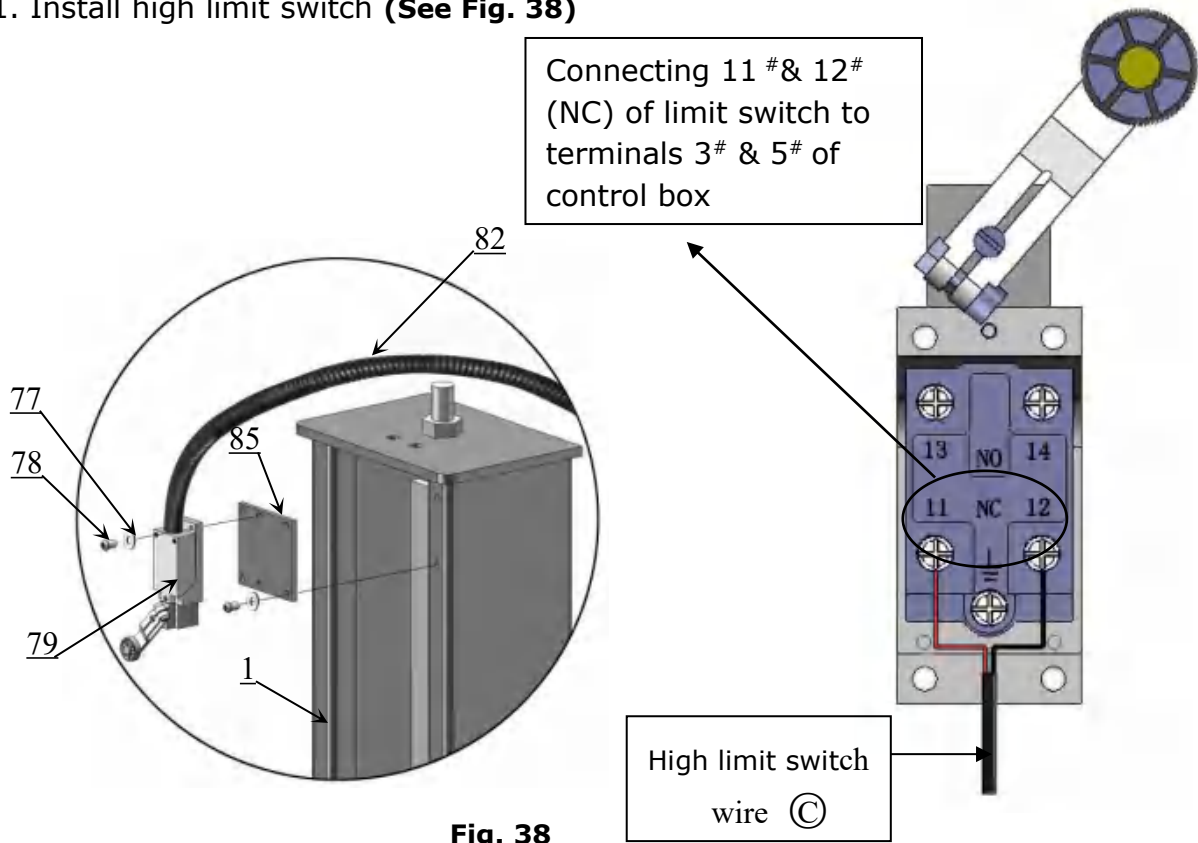

Fig. 38
1. Install high limit switch (See Fig. 38)